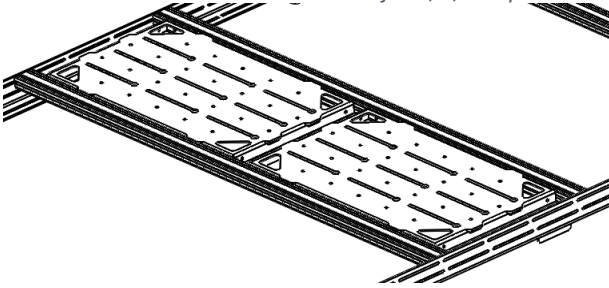

Figure 2: 27" x 17" Panel Orientation #2 – fits 2 panels across
3. **Figure 2** for available orientation.